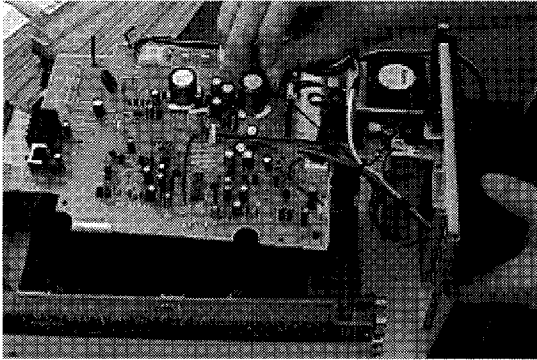

Fig. 6
11. As lifting Power Supply, U3 and Rear Panel block (with Bracket(PT)(A22)), bring these back until the bottom of Heat Sink comes over the Chassis end bent part. Then remove these with connecting wires out of the unit. (See Fig. 6.)